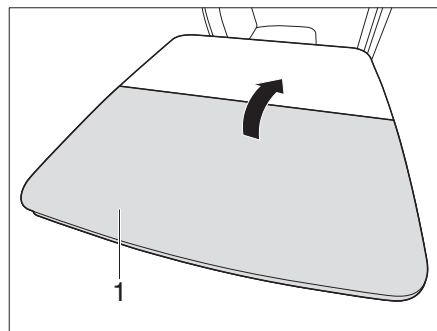

Fig. 78 Fold in the folding table
- Fold in the table half (Fig. 78,1).